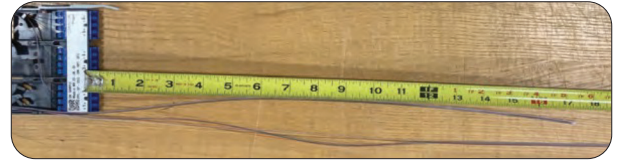

Figure 8
8. Measure and trim pigtail and feeder. Extend feeder fibers beyond the front of the cassette base, then measure and trim pigtail and feeder to specified cut length per Table 1. **(Figure 8)**